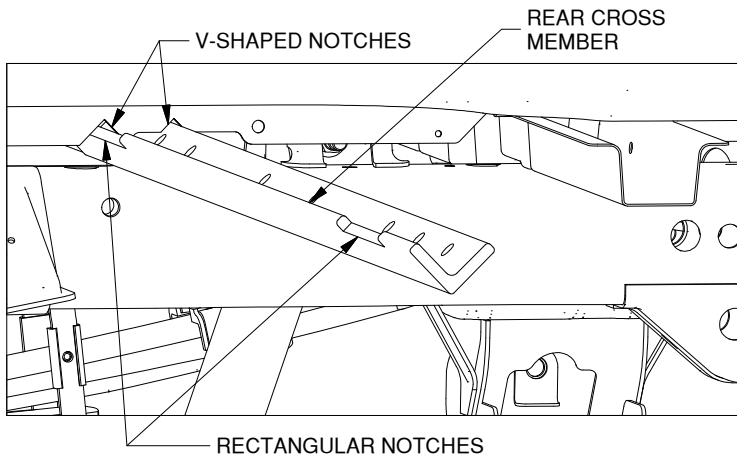

Figure C1: Looking into driver side wheel well.
1. **Place rear cross member.** Locate the rear cross member and the area where the V-shaped notches were cut. Orient the rear cross member so the leg with the rectangular notches is toward the front of the truck. Slide the rear cross member through the V-shaped notches and between the bed and the frame until it spans the driver and passenger frame rails, as shown in Figure C1. Rotate the rear cross member so the leg with the rectangular notches is vertical. The leg with the holes should be flat against the top of the frame toward the rear of the truck.